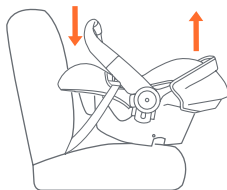

Fig. 51-2
2. **Safety Seat without Base:** Check that the Safety Seat is level side to side on the vehicle seat. Check the level Indicator appropriate for the weight of the occupant as shown in (Fig. 51-2).